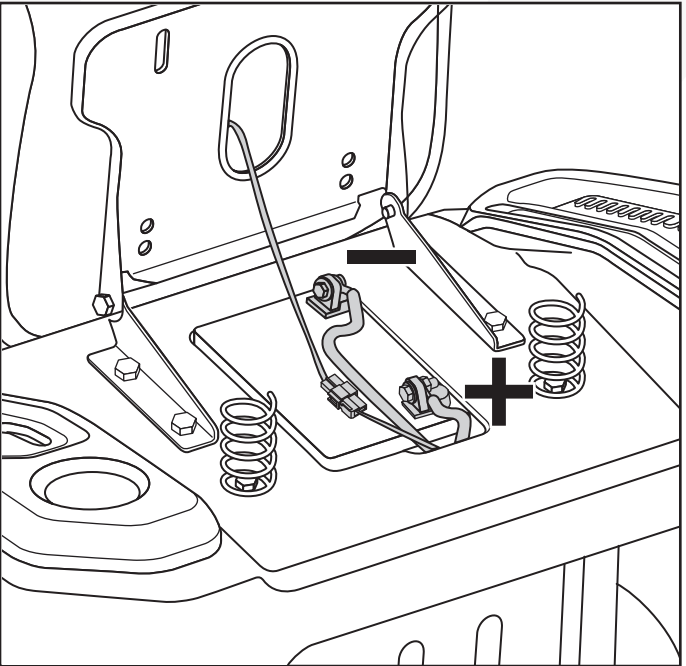

Fig. 8
- 1. Attach the positive cable (red) to the positive battery terminal using the bolt and nut to a torque of 2-4 ft-lbs. (Fig. 8)
- 2. Attach the negative cable (black) to the negative battery terminal using the bolt and nut to a torque of 2-4 ft-lbs. (Fig. 8)